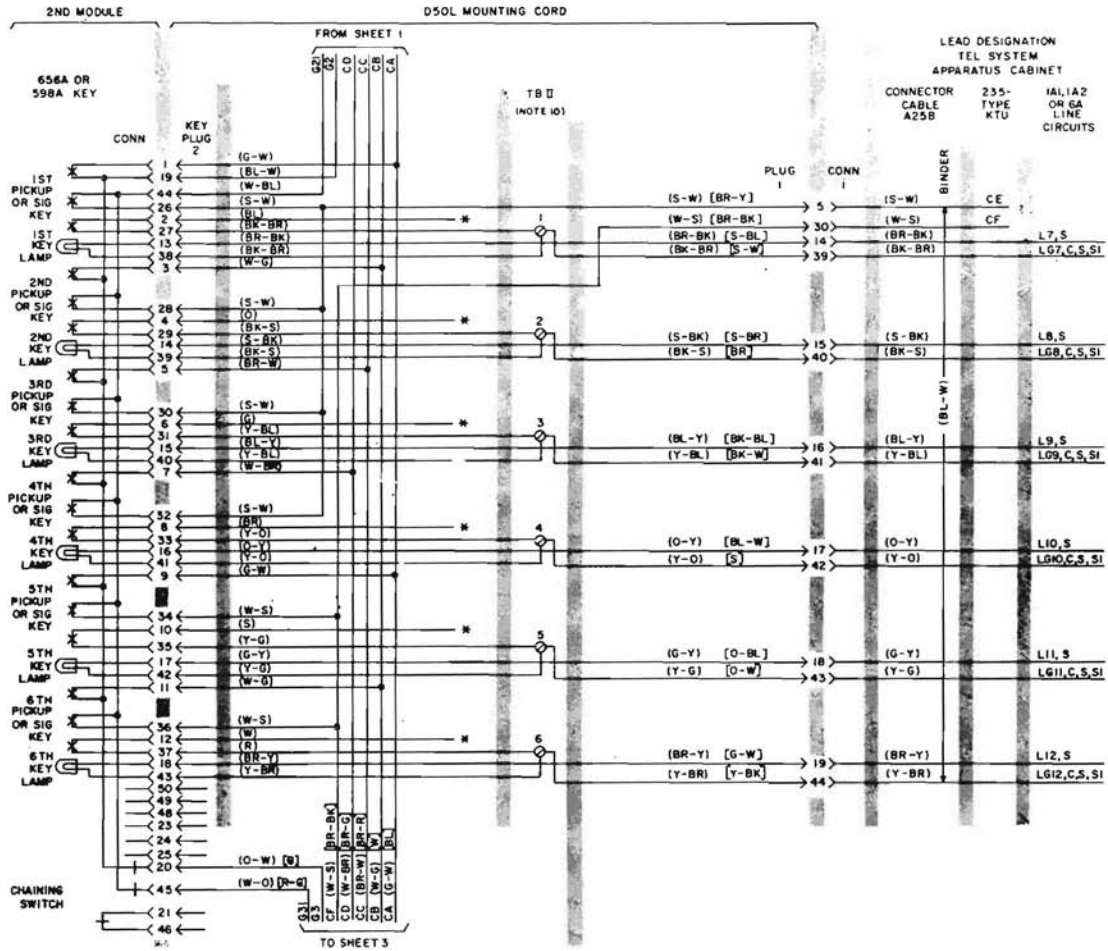

Fig. 2—Module Arrangements and Cord and Cable Connections for 2634D (MD) Telephone Sets (Sheet 2 of 3)
## NOTES FOR FIG. 2 AND 3:
- 2.03** Replacement or substitution of the key in the first module may require wiring changes as shown in the notes for Fig. 2.
- (1) Remove set housing.
- (2) Loosen screws on dial mounting plate, move mounting to left and lift out.
- (3) Remove right-hand dial mounting screw.
- (4) Place dial mounting screw through hole in wiring board and replace screw in dial. Components on board should be positioned so as not to interfere with other set components when dial mounting plate is replaced.
- (5) Replace and secure dial mounting plate.
- (6) Connect wiring board leads and make wiring changes as shown in Fig. 2 and 3.